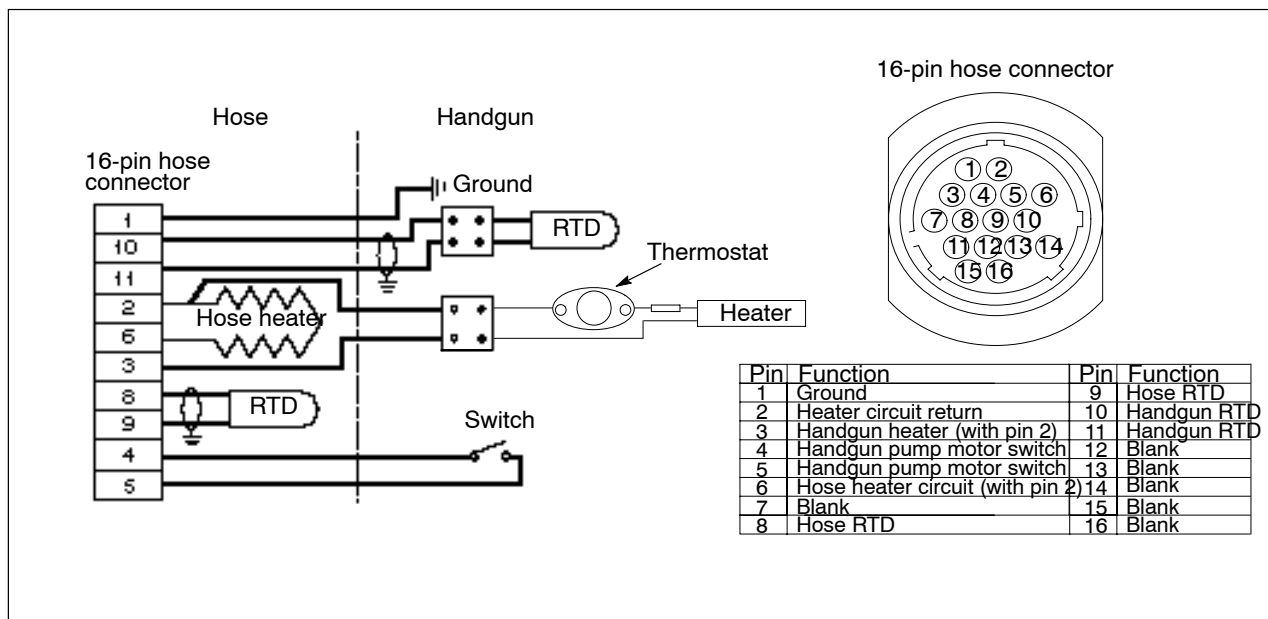

Figure 18 Wiring Diagram
1. Connect the hose electrically as shown in Figure 18.